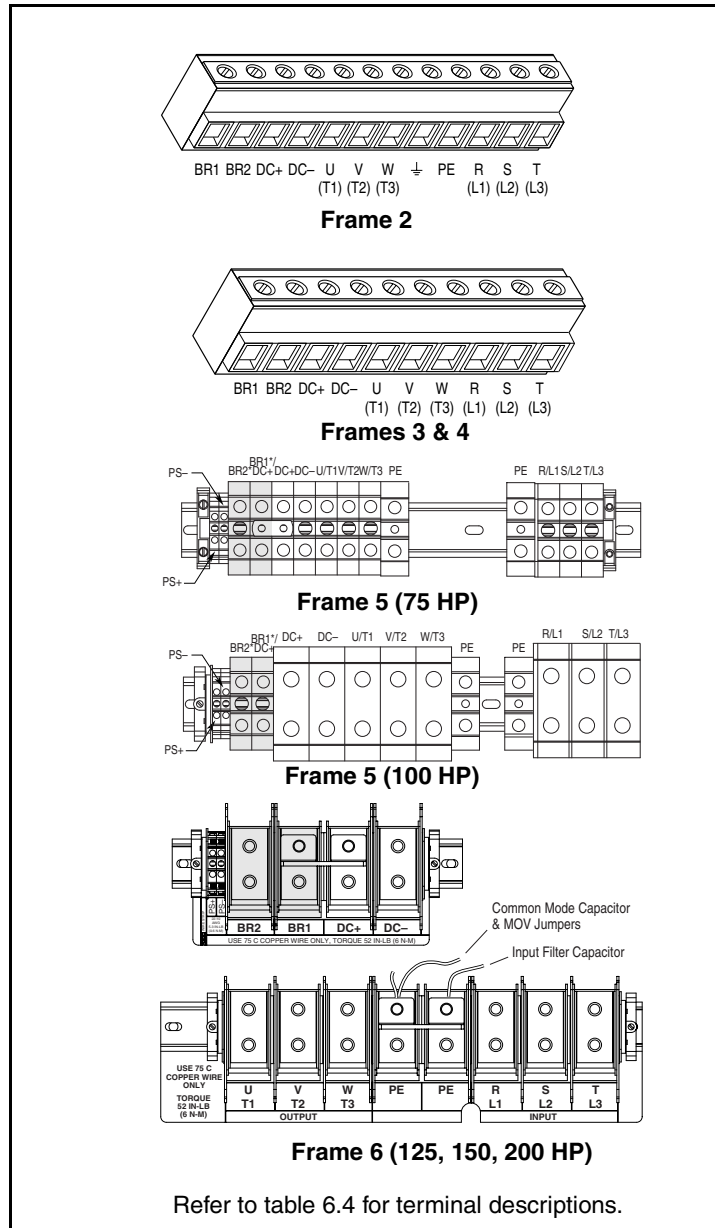

Figure 12.1 – Location of DC Bus Voltage Measuring Points
Step 4. Measure the DC bus potential with a voltmeter while standing on a non-conductive surface and wearing insulated gloves. Refer to figure 12.1.